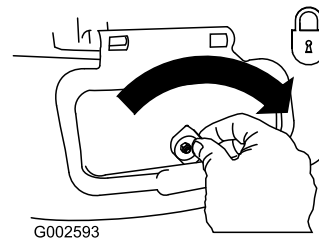

Figure 24
**Important:** Lock the side discharge door after you close it (Figure 24).